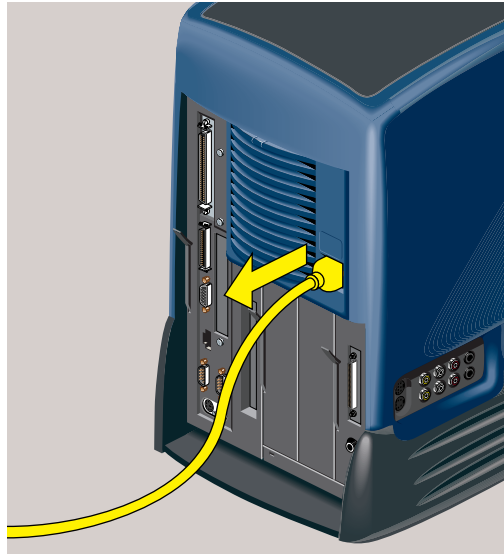

Figure 2-2 Disconnecting the Power Cables
2. Remove the power cable from the rear. (Figure 2-2).